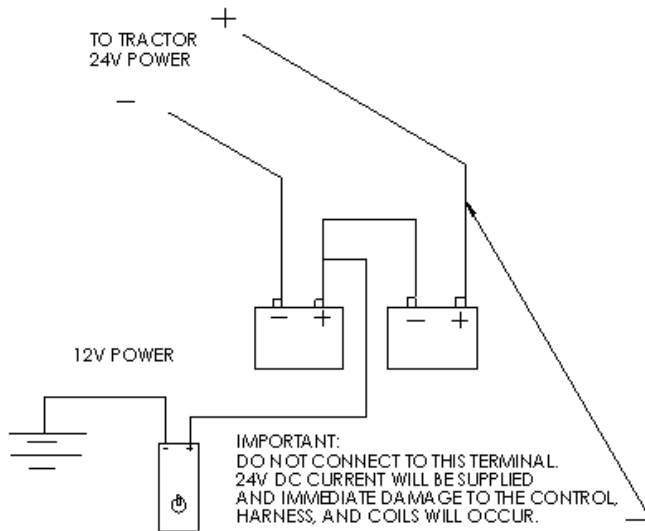

Figure 13: Alternative Wire Attachment Method
When a 12V switched source is not available, an alternative way to attach the control box is shown in Figure 13.
**CAUTION:** When using the connection method shown in Figure 13, the control must be disconnected when not in use.